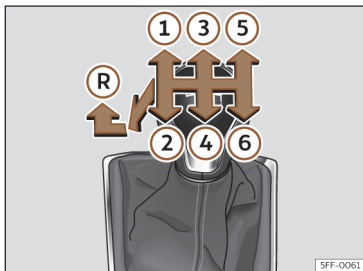

Fig. 119 Diagram of a 6-speed manual gearbox.
Gear positions are indicated on the gear lever >>> **Fig. 119**.
- With the gear lever in neutral, push it down, move it all the way to the left and then forwards to select reverse gear >>> **Fig. 119** (R).